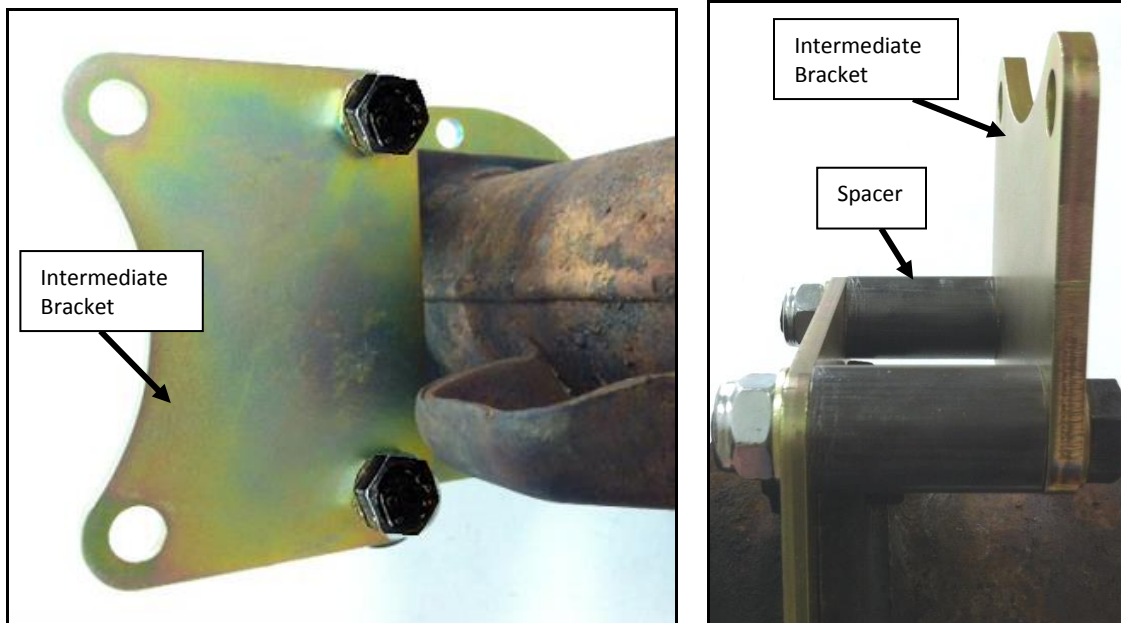

Figure 3: Intermediate bracket (years 63-87)
8. Install the intermediate bracket using the supplied bolts, washers, Nylock nuts, and steel spacers. Torque each bolt to 85 ft·lbs. See Figure 3 for reference.